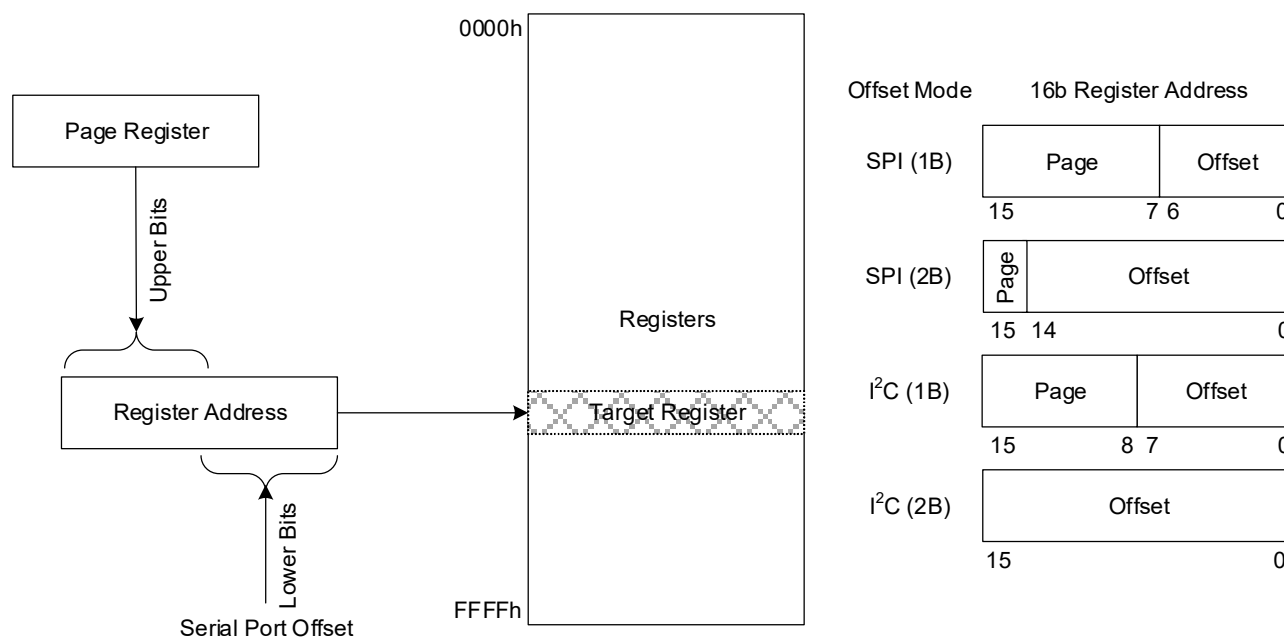

Figure 28. Register Addressing Modes Using Serial Port
You can choose to operate the serial port providing the full offset address within each burst, or to operate in a paged mode where part of the address offset is provided in each transaction and another part comes from an internal page register in each serial port. Figure 28 shows how page register and offset bytes from each serial transaction interact to address a register within the RC38312, RC38112, RC38208, RC38108.
The selection of 1-byte (1B) or 2-byte (2B) offset addressing must also be configured using the ssi_addr_size register field. These offsets are used in conjunction with the page register to access registers internal to the device (see Figure 28). Because the I²C protocol already includes a read/write bit with the Dev Addr, all bits of the 1B or 2B offset field can be used to address internal registers.
- 1-byte (1B) or 2-byte (2B) offset addressing (ssi_addr_size) (see Figure 28)